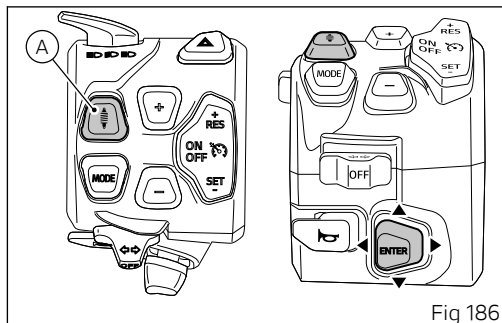

Fig 186
- Press button (A, Fig 186) to activate the specific menu.